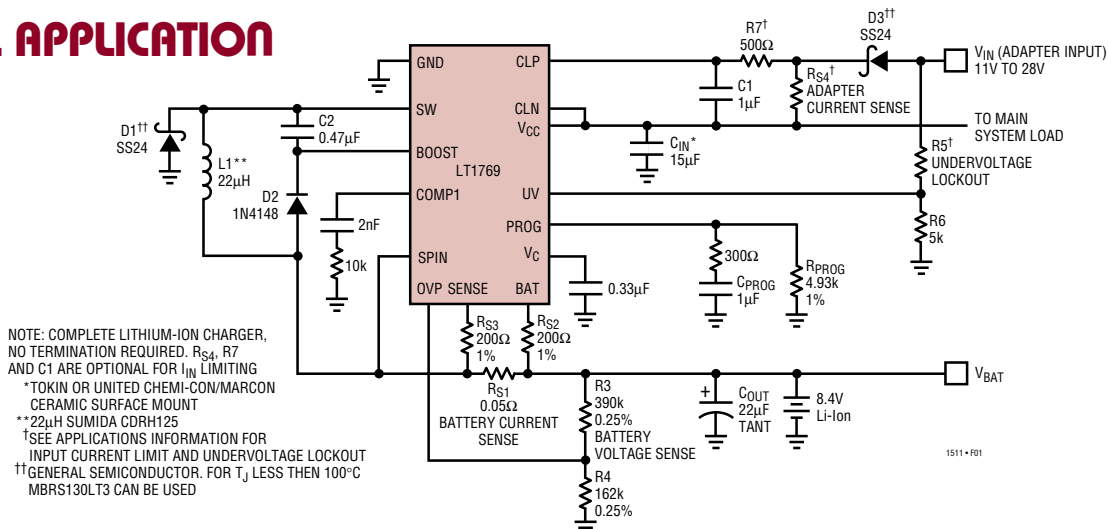

Figure 1. 2A Lithium-Ion Battery Charger
**BOOST (Pin 5/Pin 2):** This pin is used to bootstrap and drive the switch power NPN transistor to a low on-voltage for low power dissipation. In Figure 1,  $V_{BOOST} = V_{CC} + V_{BAT}$  when switch is on. For lowest IC power dissipation, connect boost diode D1 to a 3V to 6V at 30mA voltage source (see Figure 10).